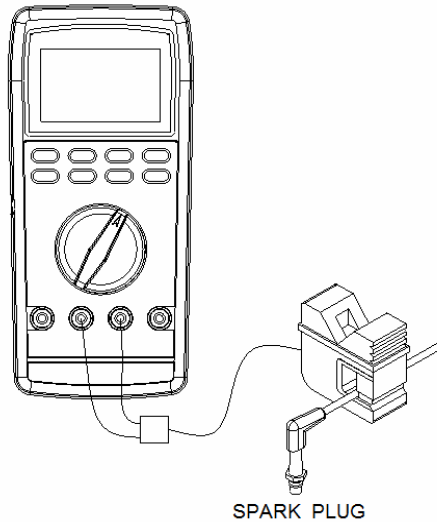

Fig. 4
- 4) Connect the TACH. INDUCTIVE PICK UP SENSOR to the high tension wire of No. 1 SPARK PLUG (or No. 2, No. 3... SPARK PLUG), ref. Fig. 4, then the display will show RPM reading .